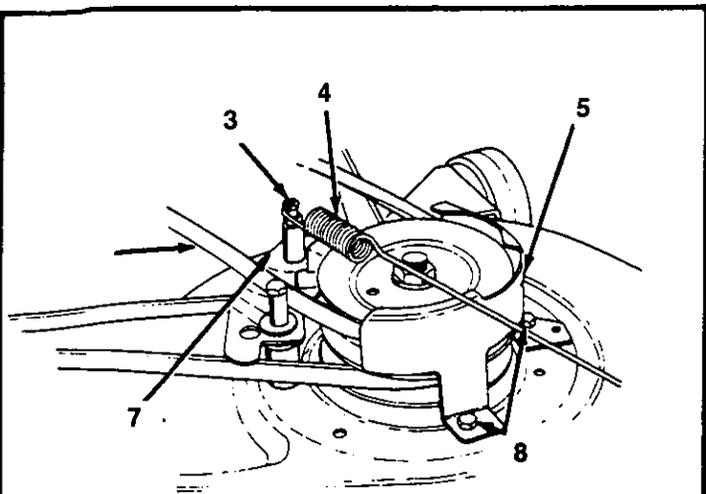

FIGURE 4.
9. Remove the top hex lock nut from the bolt on the deck brake bracket assembly, and remove the spring from the bolt. See figure 4.
10. Remove the left-hand belt guard by removing the hex bolts, lock washers and hex nuts. See figure 4. Remove the upper belt from the top pulley.
4. Remove the top nut from the bolt on the deck brake bracket assembly, and remove spring from the bolt. Refer to figure 4 (page 5-4) and figure 8.